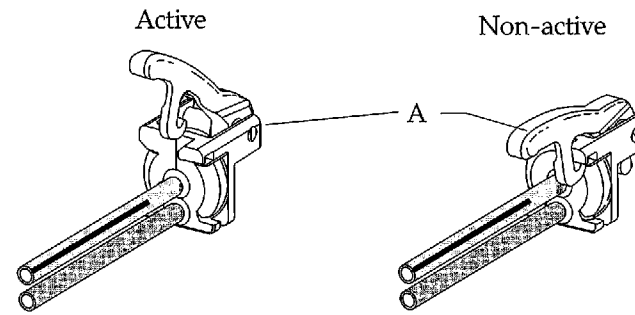

Figure 18. Active and non-active handpiece positions. (A) actuator
- Ensure the handpiece position is active (see Figure 18).